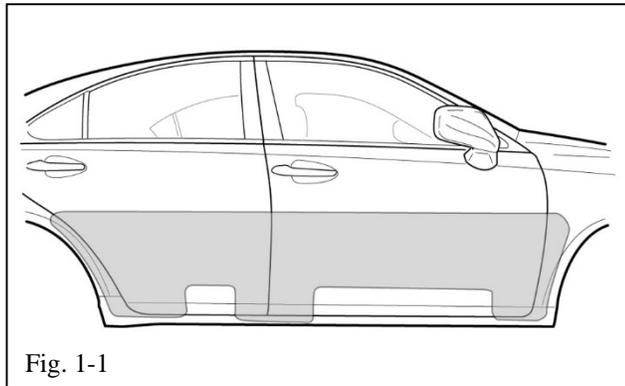

Fig. 1-1
- (c) Saturate a clean lint-free cloth with 3M™ Prep Solvent-70 and clean the areas of each door (Fig. 1-1).